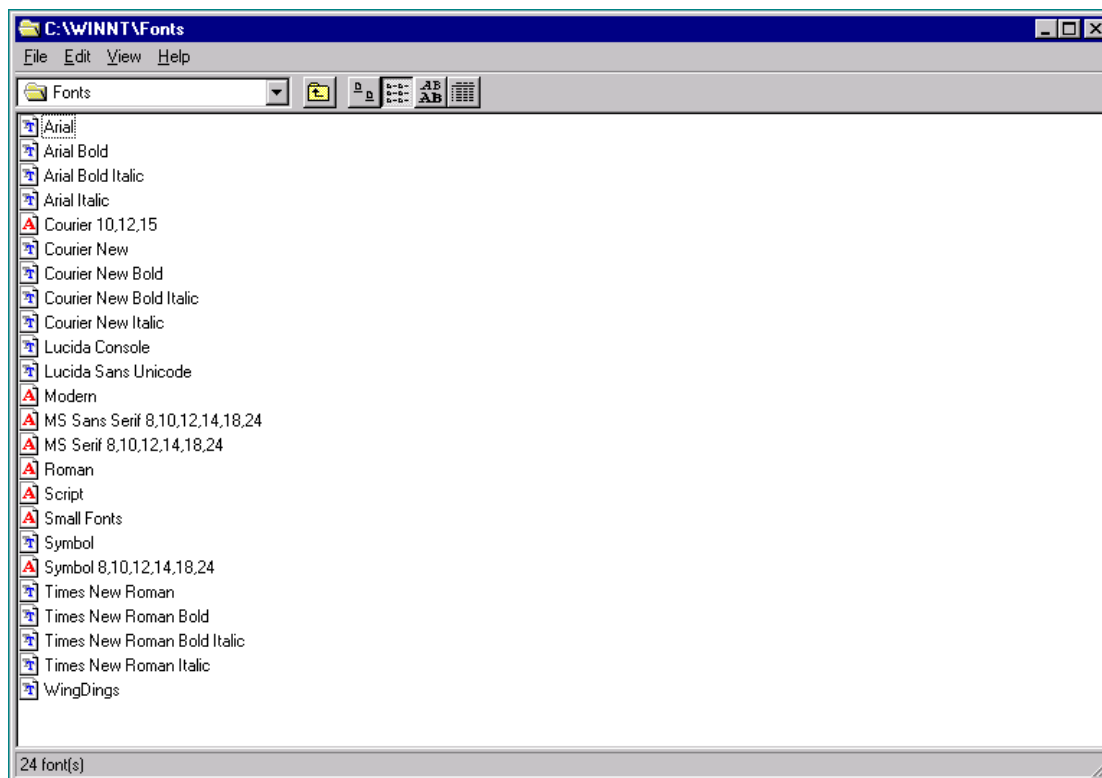

FIGURE 27. Example of Fonts Dialog
8.50 Check to see if the 'NAD_CV' or 'NAD_NIBP' fonts are installed. If they are, remove them by selecting them, and press the Delete key on the keyboard connected to the NM6000. See Figure 27.